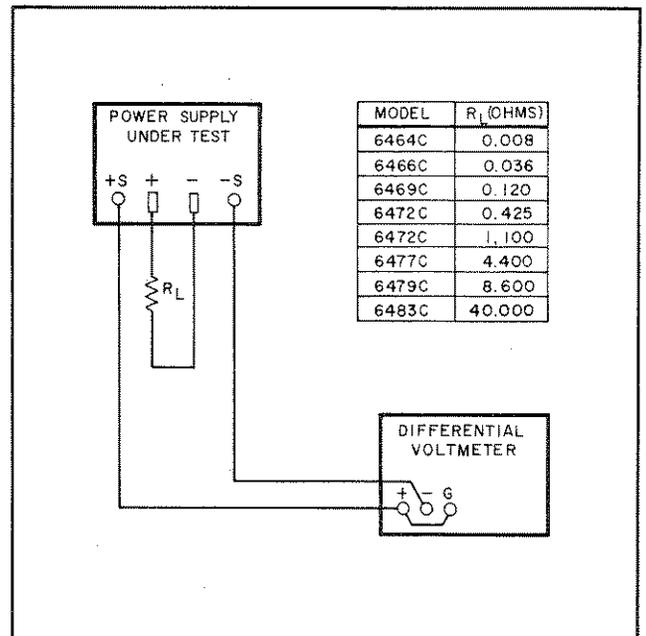

Figure 5-1. Constant Voltage Load Regulation Test Setup
| Resistive Loads | Value: see Figure 5-1. 10kW rating. | Power supply load resistors. | |
- Connect test setup shown in Figure 5-1.